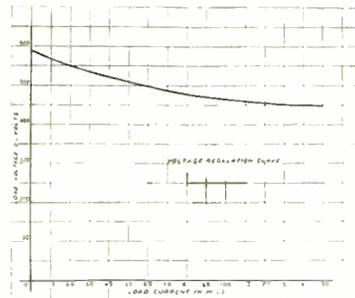

Fig. 2. Voltage regulation curve of the 90 mil. rectifier tube
Fig. 2 shows the smooth regulation of the 90 mil. rectifier. From this curve it is seen that the regulation between the 40 mil. load and the 90 mil. load is not over 50 volts. The
condenser "C" as shown in Fig. 2. Our indicator will show that there is r. f. in the circuit of "C" but none at "b" or "b1". The natural assumption is that the choke has prevented the flow of r. f. through "L-b1," and diverted it through "C," but while this is the effect, what actually has taken place is quite different. The radio frequency passing through "p-L-b1" has induced an opposite, and approximately equal (depending upon the
- FIG. 2 -